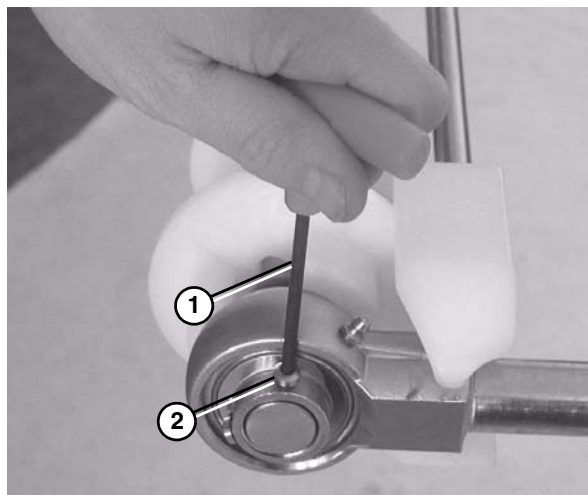

Figure 67
5. Use a hex wrench (Figure 67, item 1) to tighten the bearing shaft fasteners (Figure 67, item 2) to 6 N•m (54 in•lbs). Check after 24 hours of conveyor use.